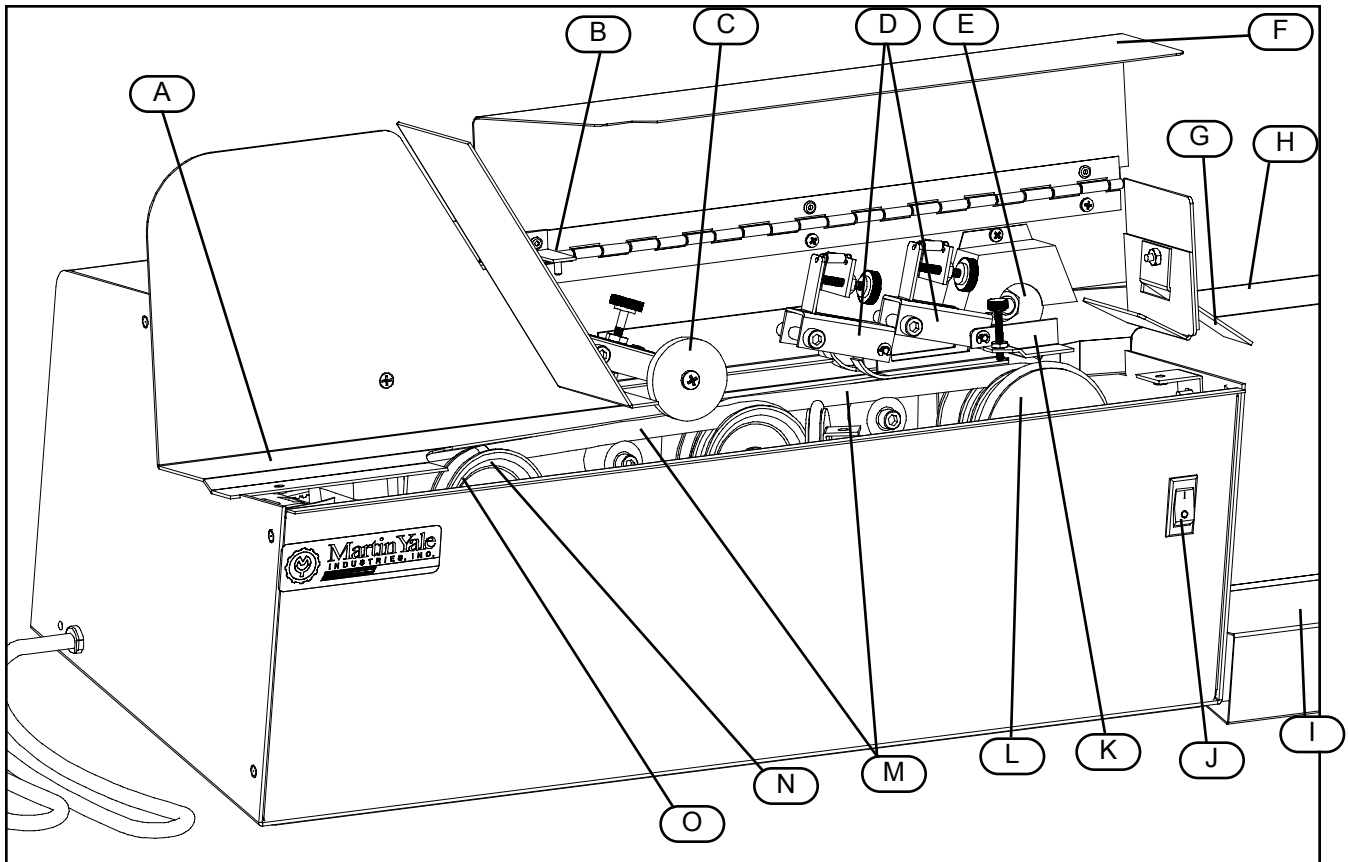
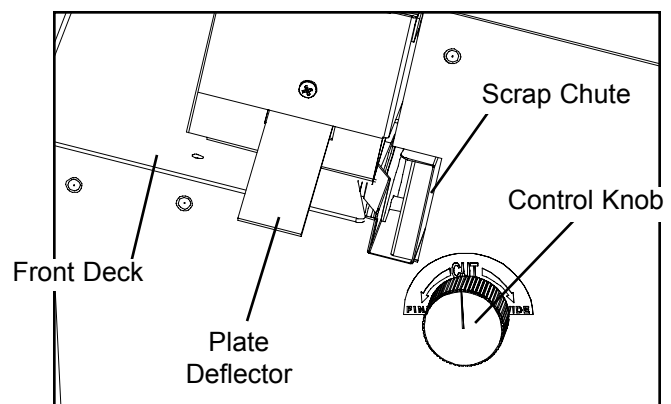

Figure 1
Figure 2
* Note the twin spiral feed belts (M, see Fig. 1). Their spiral counterclockwise action shunts envelopes against the back plate for precision slitting. Note that the belt at left is angled more sharply. This “pre-feeds” envelopes to the belt at right.
* The transporter wheel (not shown), another Model 62001 feature, acts as a further assurance that out-size pieces will be shuttled inward on the front deck (Fig. 2).
* The holdback wheel (C) prevents jamming at the loading end. Since it is spring loaded, the bulkier the envelope, the greater the pressure exerted by the holdback wheel. This effectively prevents entry of more than one piece of mail at a time.
Self-sharpening blades made of precision steel (E) cut a measured strip from each envelope, whether fed face-up or face-down. The control knob at right (see Fig. 2) adjusts the blade and permits the operator to vary the width of cut from wide to fine.
Interiors of most mail opening machines are inaccessible without the removal of the entire operating assembly. The Model 62001 has a unique split deck feature which solves that problem. The deck is split lengthwise into two halves, front (see Fig. 2) and rear. The front half is removable, making cleaning, inspection and repair of the interior of the letter opener easier.
This is a one-time only installation. Look for the plastic packet inside the shipping carton. It contains the nickel-plated plate deflector and screw. Simply attach outside at point as shown. (See Fig. 2)
The catcher base simply sits on the exit side of the folder in a position to catch processed envelopes as they are ejected from the machine (See Fig. 1 for placement). The scrap bin lies in the narrow recess of the catcher base. The entire assembly then is aligned so that the inside front wall of the scrap bin butts against the front edge of the protruding lip of the scrap chute (See Fig. 2).
Check the control knob (Fig.2) for width of cut desired, from wide to fine. The cut should be deep enough to open envelopes cleanly but fine enough to insure that the blade does not come into contact with contents such as checks and money orders, etc., nor coins, staples and paper clips. Make sure the Model 62001 is 'OFF' as indicated by the 'O' on the power switch. Plug the machine into an appropriate power outlet.